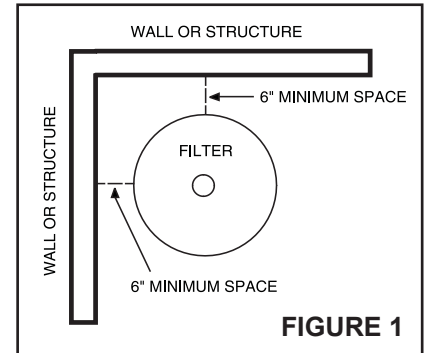

FIGURE 1
3. Allow sufficient clearance around the filter to permit visual verification that the lock ring is properly installed around the tank flanges, see **FIGURE 1**.